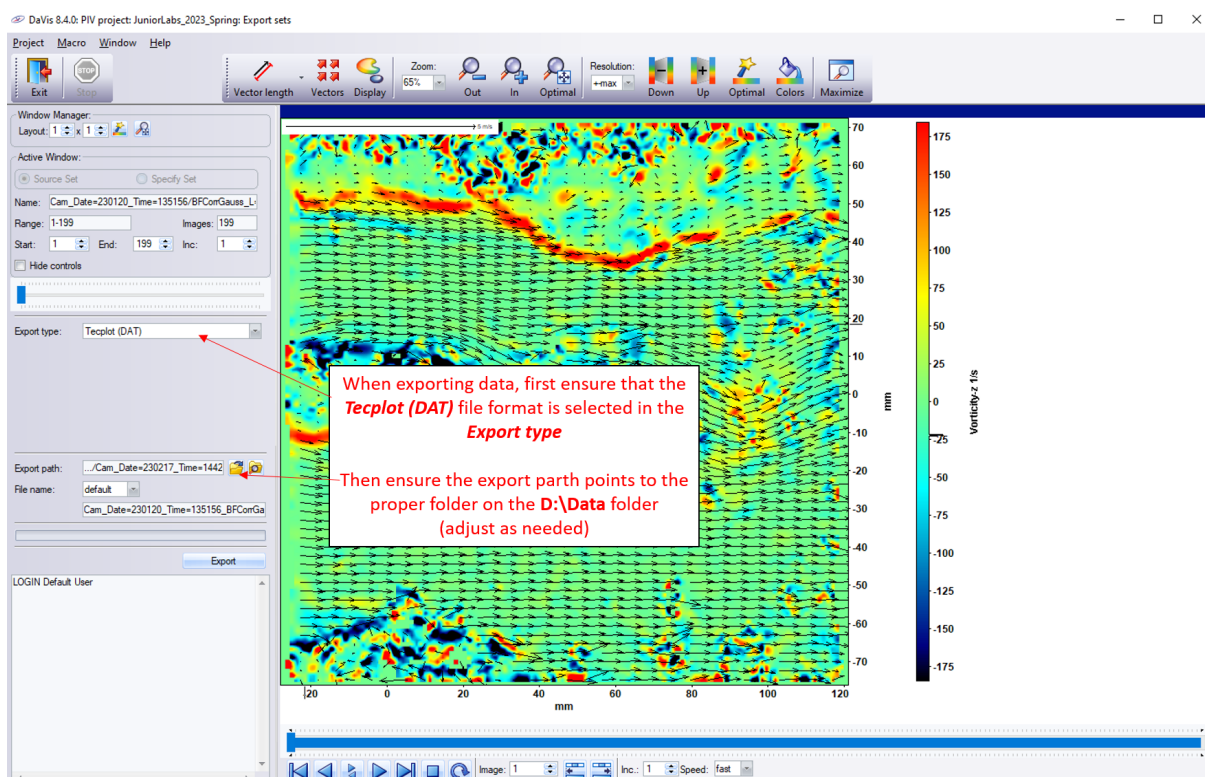

Figure 19: Exporting data.
- Make sure that ”File name” is set to ”Default”, and that your export type is Tecplot (DAT), as shown in Figure 19.
- Once you are ready, click "Export" - see Figure 19.